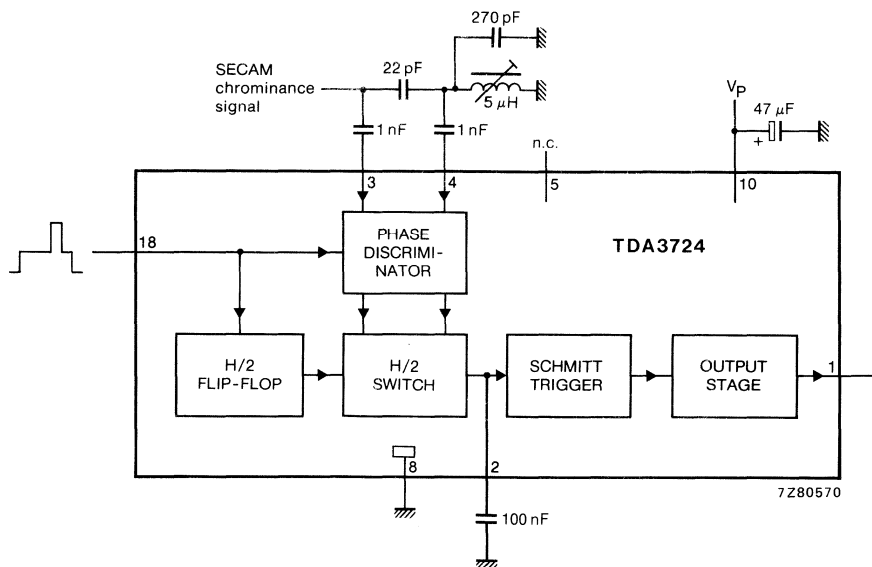

Fig. 1 Block diagram.
**CHARACTERISTICS** $V_P = 10$  V;  $T_{amb} = 25$  °C; measured in Fig. 1; unless otherwise specified.